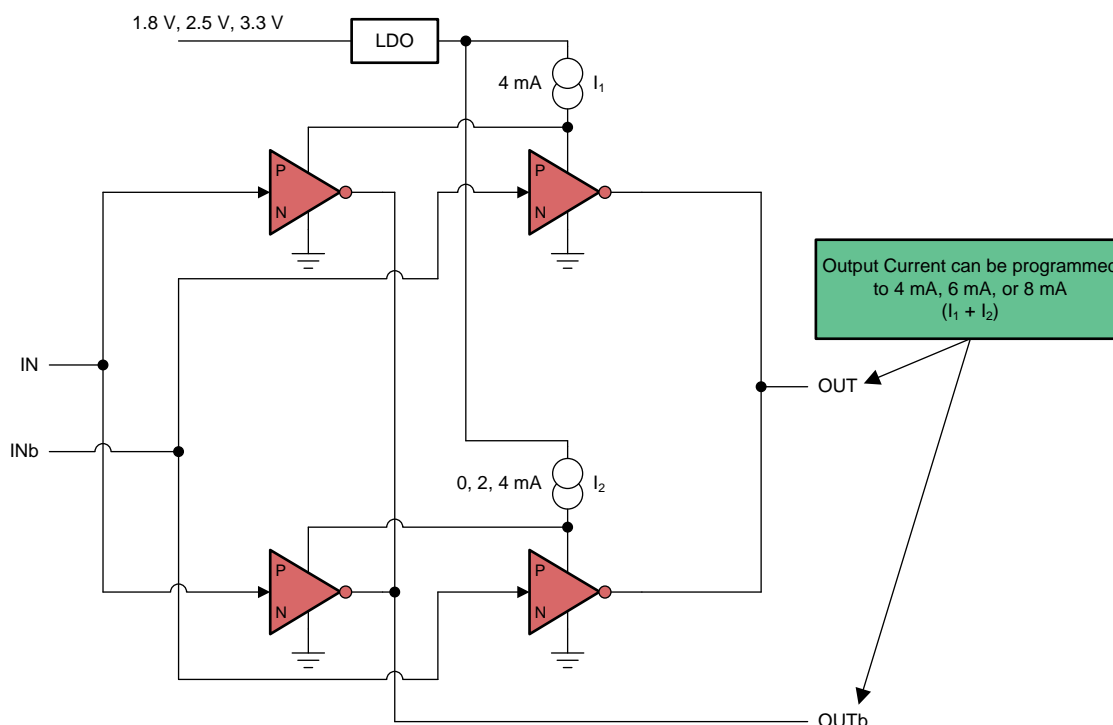

Figure 62. Structure of AC-LVDS, AC-CML, and AC-LVPECL Output Stage
The AC-LVDS, AC-CML, and AC-LVPECL output structure is given in Figure 62 where the tail currents can be programmed to either 4 mA, 6 mA, or 8 mA to generate output voltage swings that are compatible with LVDS, CML or LVPECL, respectively. Because this output structure is GND referenced, the output supplies can be operated from 1.8 V, 2.5 V or 3.3 V and offer lower power dissipation compared to traditional LVDS, CML, or LVPECL structures without any impact on jitter performance or other AC or DC specifications. Interfacing to LVDS, CML or LVPECL receivers are done with just an external AC-coupling capacitor for each output. No source termination is needed since the on-chip termination is automatically enabled when selecting AC-LVDS, AC-CML, or AC-LVPECL for good impedance matching to 50 Ω interconnects.
3. The latency is deterministic and its variation is no more than 1 VCO clock cycle and an example scenario is illustrated in Figure 62.